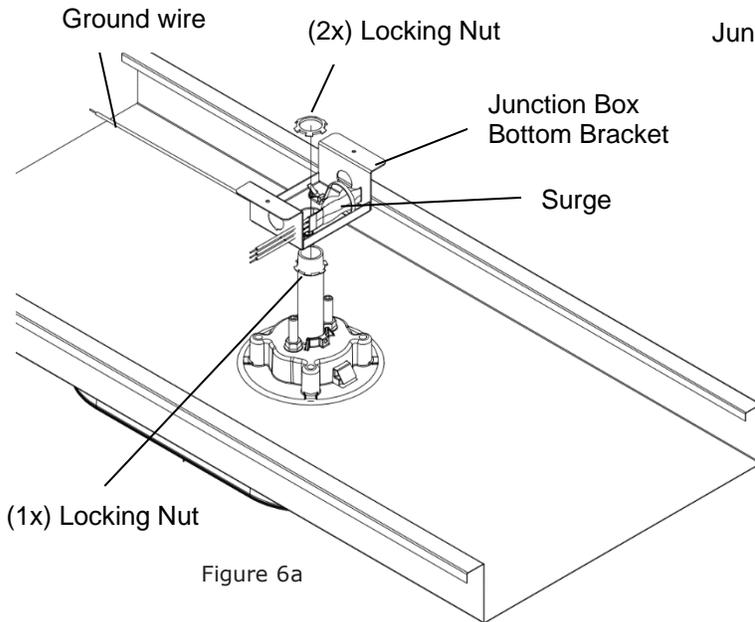

Figure 6a
- Assemble the (1x) locking nut to the conduit pipe as shown in Fig 6a. Tighten the locking nut.
- Place the wet location Junction box bottom bracket (which includes surge and ground wire) on to the locking nut and conduit pipe as shown in Fig 6a.
- Assemble the (2x) locking nut on the conduit pipe to secure the Junction box bottom bracket. Tighten the locking nut. Fig 6a